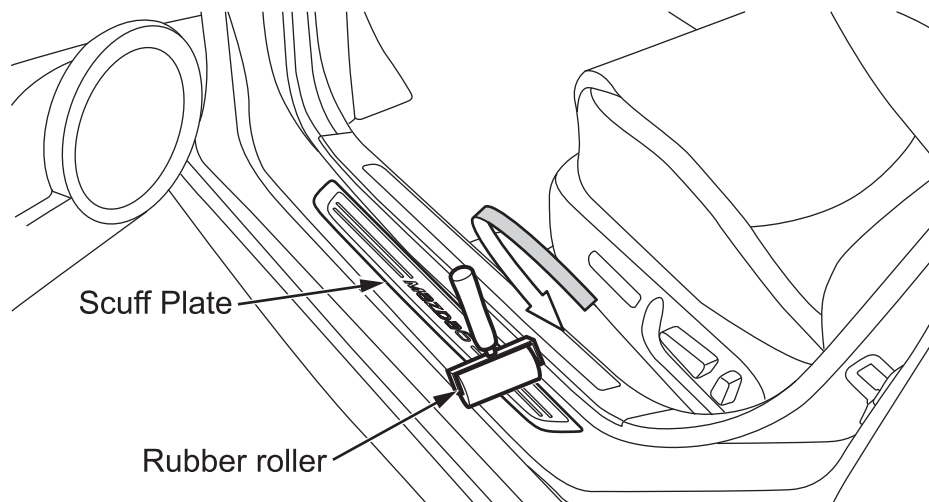

Figure 6
- A. Use Rubber Roller, from center out, press down the perimeter of part to ensure proper wet-out of adhesive. (Figure 6) (Use caution to ensure roller does not scratch vehicle)